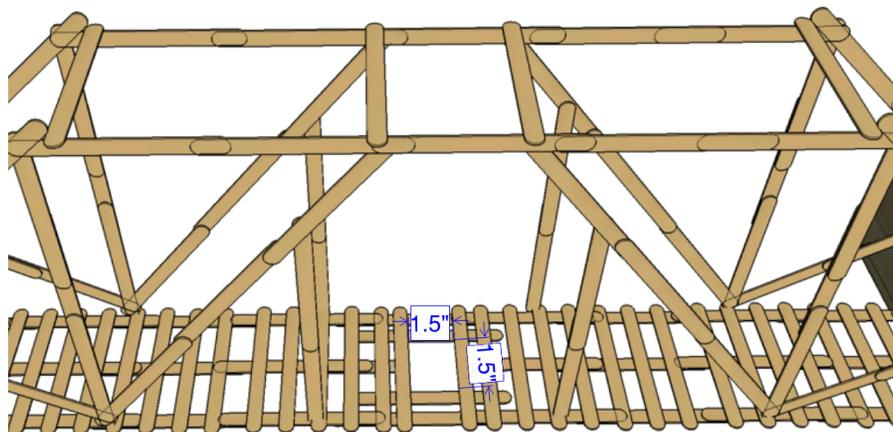

Figure 5 - Center 1.5" x 1.5" Opening Requirement (not to scale)
- Bridges must have a clear 1.5" x 1.5" opening along its center from top to bottom. Popsicle sticks can be cut only for this opening. Refer to Figure 5 below.